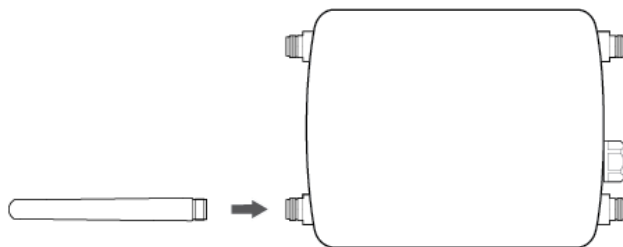

Figure 16. Installing Antennas to the Access Point
1. Screw a 5GHz antenna into the 5GHz antenna connector on the top panel of the access point. See Figure 16.
3. Screw a 2.4GHz antenna into the 2.4GHz antenna connector on the top panel of the access point. See Figure 16.